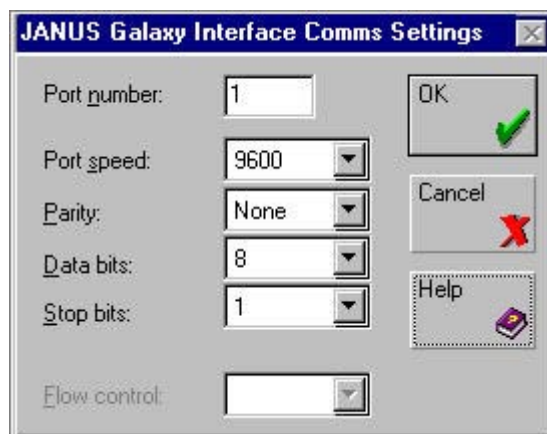

Figure 9. Comms settings dialog
2. From the menu bar, select **Settings • Communications...**, or press **F10**. The Communications settings dialog opens as shown in **Figure 9**. See **Table 9** for a description of the fields.